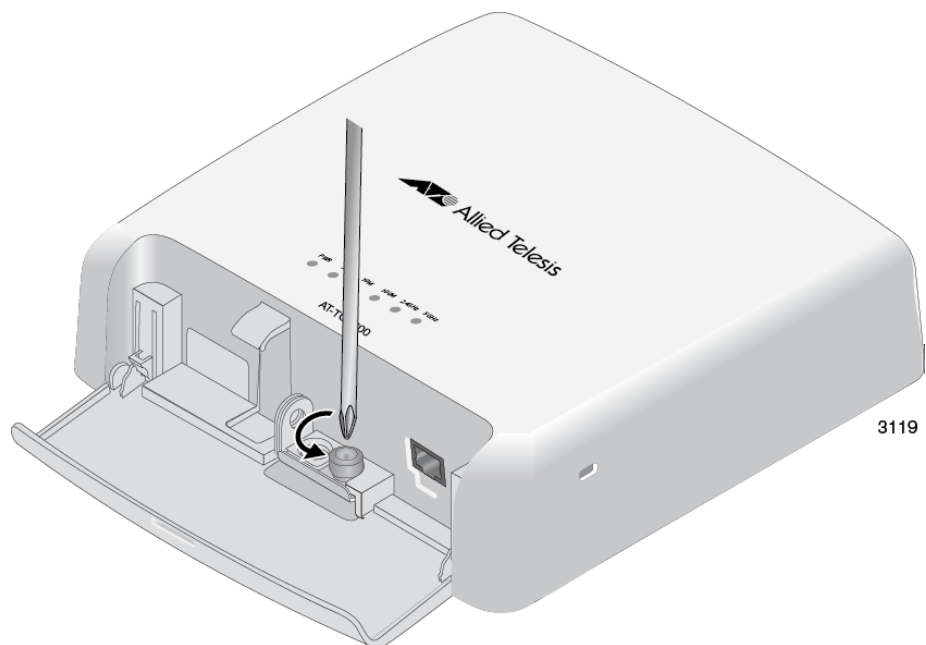

Figure 14. Loosening the Captive Screw
3. Use a #2 Phillips-head screwdriver to loosen the captive screw that secures the bottom panel to the wireless access point. Refer to Figure 14 on page 38.